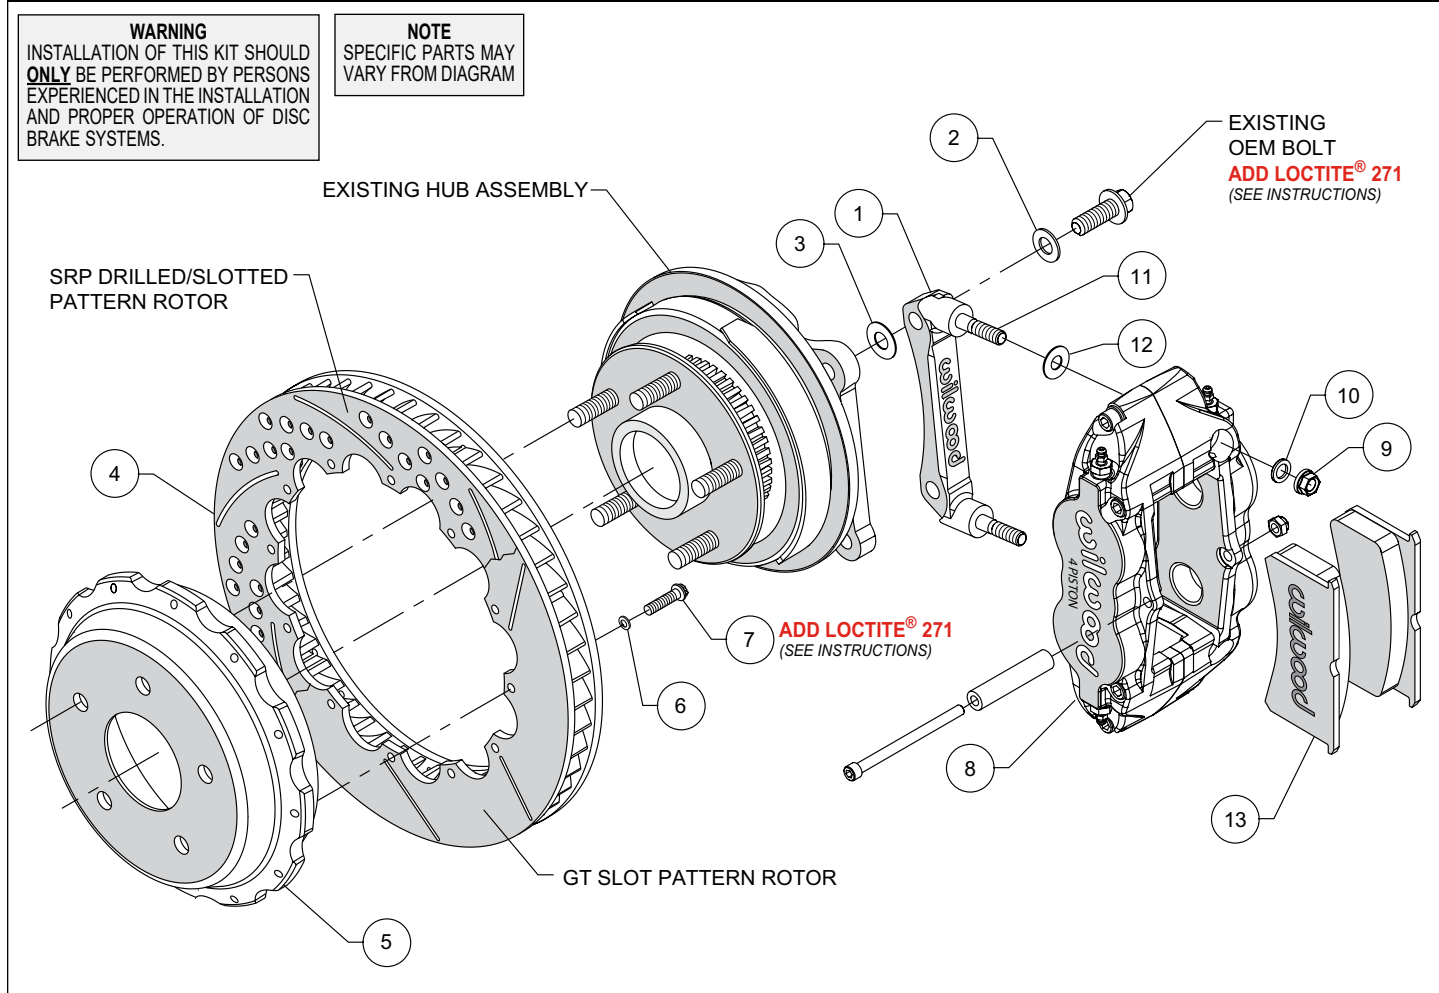
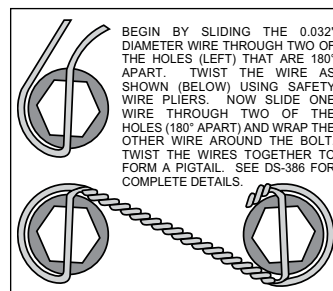

Figure 1. Typical Installation Configuration
Figure 4. Safety Wire Diagram
- The caliper mount bracket assembly (1) should be installed first with clean, dry threads on the existing OEM mounting bolts. Install the bracket from the rear side of the hub by sliding stock bolt through flat washer (2), through the caliper mounting bracket (1) and shim washer (3) through the OEM caliper mounting bracket ears as shown in Figure 1 and Photo 1. The bracket must tighten squarely against the inboard side of the caliper mount bosses on the upright. Inspect for interference from casting irregularities, machining ridges, burrs, etc. Use one thin shim (3) between the bracket and upright during initial trial fitting. Later, after the caliper, pad, and rotor alignment has been checked, and any necessary shims have been put in place, the mounting bolt threads should be coated with red *Loctite*® 271 and torqued to 75 ft-lbs.
- Orient the rotor (4) and hat (5) as shown in Figure 1 and Photo 2. Attach the rotor to the hat with bolts (7) and washers (6). Apply red *Loctite*® 271 to the bolt threads and torque to 140 in-lb using a criss-cross pattern. For an added measure of security, the bolts may be safety wired using standard 0.032 inch diameter stainless steel safety wire as shown in Figure 4. Please refer to Wilwood's data sheet DS-386 (available at www.wilwood.com/Pdf/DataSheets/ds386.pdf) for complete safety wire installation instructions.
- Install one shim (12) over each stud (11) on the radial mount bracket (1), Photo 4. Slide the caliper (8) in place over the studs and rotor and install the washer (10) and lock nut (9) to hold the caliper in place, Photo 5. The caliper bleed screws should be pointing up. Snug the lock nuts (9) and check that the rotor (4) is centered in the caliper (8). Add or subtract .033" shims (3) as necessary between the caliper mount bracket (1) and the caliper mount bosses on the upright assembly to center the caliper.